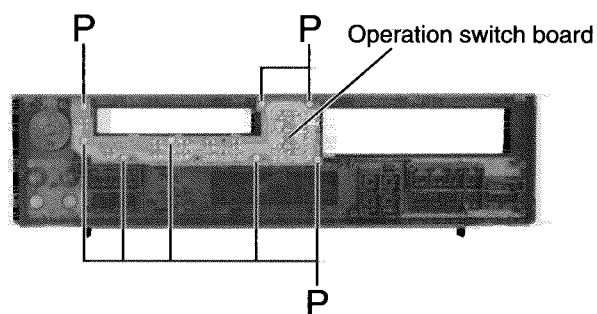

Fig.21
■ Removing the operation switch board (See Fig.21)